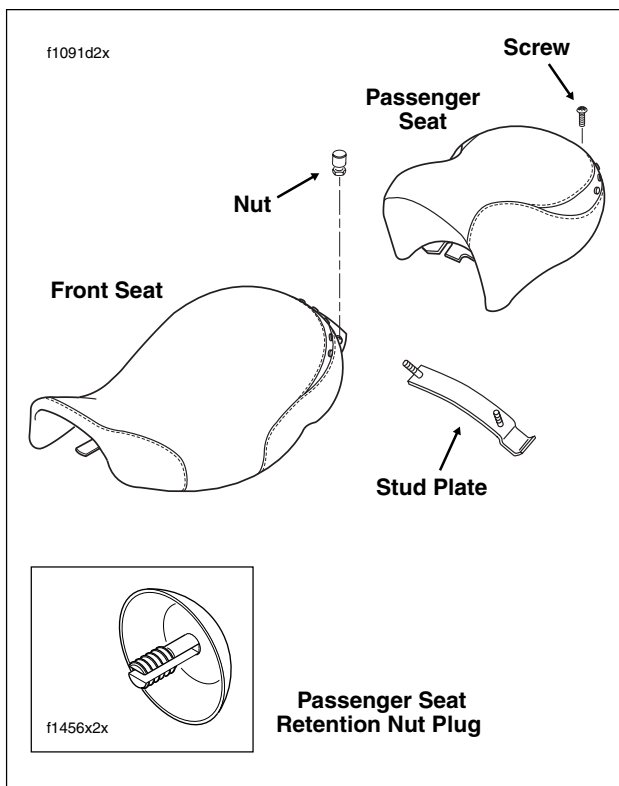

Figure 2-126. Seat Assembly - FLHR
1. Remove Phillips screw to detach passenger seat mounting bracket from top of rear fender. See Figure 2-126. Slightly lift up back of passenger seat and carefully slide toward rear of vehicle to detach from front seat mounting bracket nuts.
The FLHR seat can be converted to a solo seat by removal of the passenger section. When the solo seat configuration is desired, turn the passenger seat upside down and locate the chrome plug pressed into the seat frame hole. See inset of Figure 2-126. Remove the plug and press into the seat retention nut hole using finger pressure only.